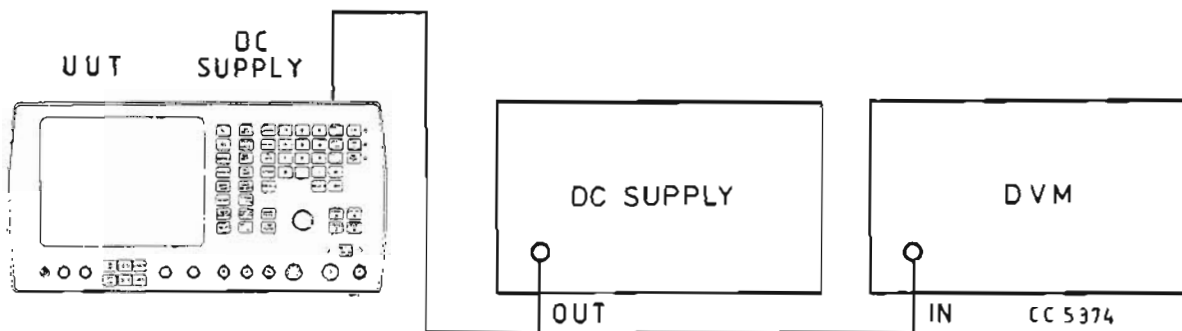

Fig. 14 Test equipment connections for adjusting R46 on AR1
- (1) Disconnect the a.c. mains supply lead from the u.u.t. AC SUPPLY socket.
- (2) Connect the d.v.m. and a d.c. supply capable of supplying 55 W at 16 V to the u.u.t. rear panel DC SUPPLY socket (see Fig. 14).